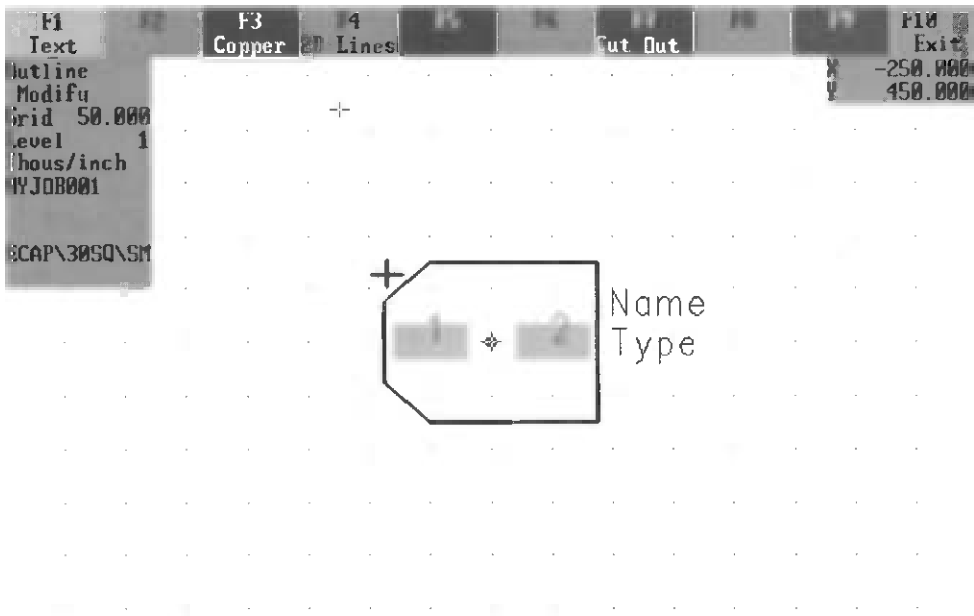

Figure 10-5 ECAP\30SQ\SMD Part Layout
- **C1** (22UF 35V electrolytic capacitor): Refer to Figure 10-5 for the ECAP\30SQ\SMD pin arrangement. Note that OrCAD assigns pin 1 to the positive (+) terminal on polarized capacitors. This is not an industry standard and only matches the PCB part by coincidence. No editing is required.